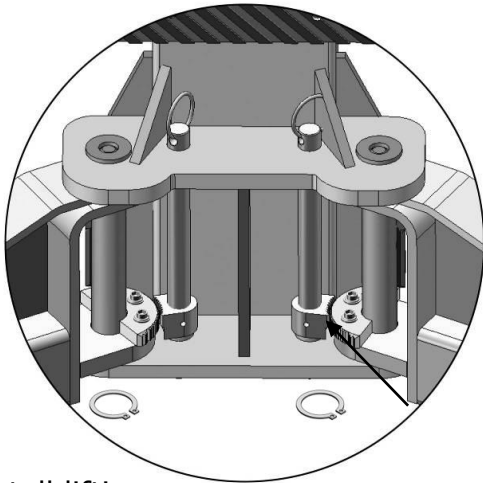

Fig. 35
1. Install lifting arms (**See Fig. 35**).